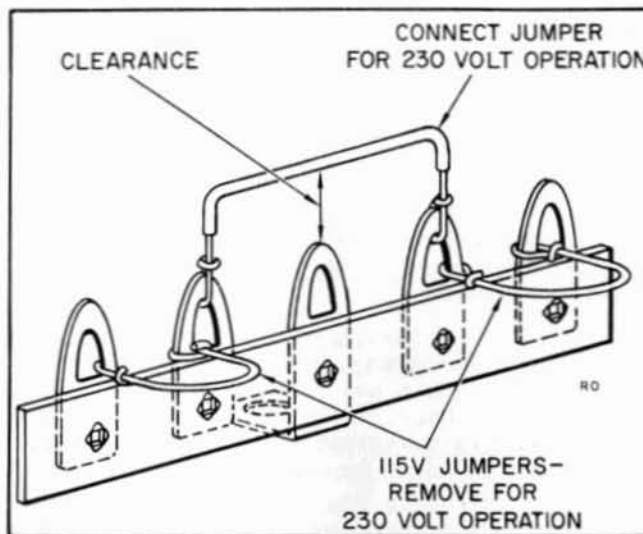

Figure 4-1. 230-Volt Operation
The following describes circuit modifications necessary to change the 200S power transformer primary from 115-volt operation to 230-volt operation. Figure 4-1 further illustrates this procedure.
- 2) Remove the two bare wire jumpers from the terminal strip as indicated in figure 4-1.